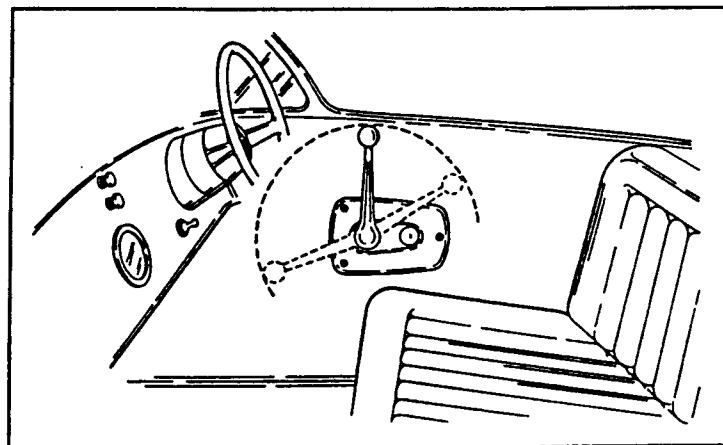

FIGURE 2
- a. Choose a location which provides clearance for the control head hand lever and allows a clear path for the control cables from the control head to the motor. The recommended mounting position for the control head is shown in Figure 2. The centerline of the handles should be in line with the front edge of the seat and the hub of the lever should be about 2-1/2 inches (63mm) above the seat.